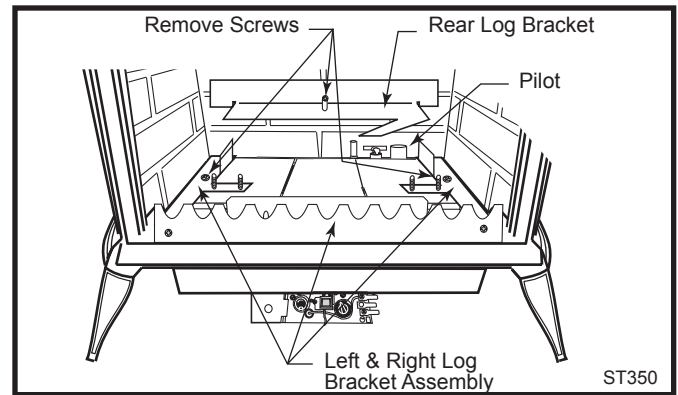

Fig. 38 Attach the gas line to the left side of the valve.
5. Remove the rear log bracket by unfastening the screw and pulling the bracket away. (Fig. 38)
6. Remove the right and left log bracket assembly by unfastening the two screws which hold the burner in place. (Fig. 38)
1. Locate pilot. (Fig. 38)